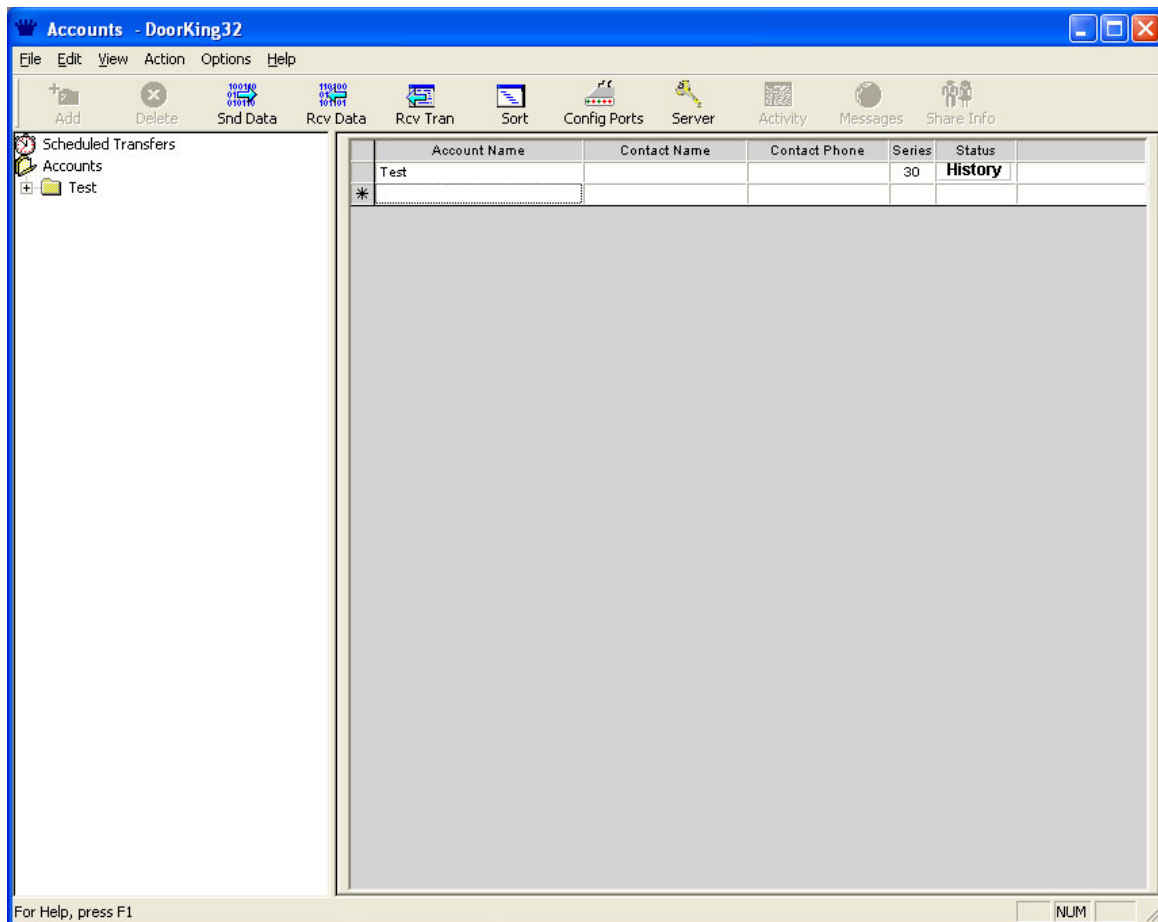

Figure 1
2. The ACCOUNT screen will appear on your screen (fig 1). An account named "Test" has already been created.